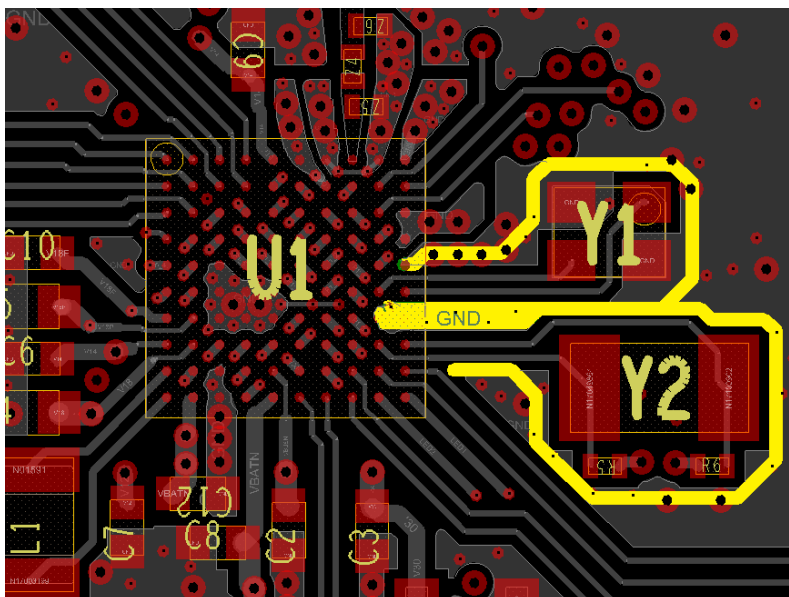

Figure 41: XTAL Grounding
- If possible, try to create a ground shield around the crystals. XTAL32M ground is connected to the three XTAL32M GND balls (Figure 41)